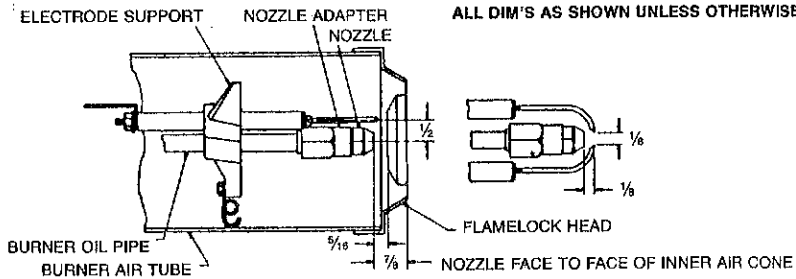

Figure 2
- 2— Install proper nozzle into gun assembly. Loosen and remove the two screws located on the transformer top plate at the front of the burner chassis and swing open. Slide drawer assembly into air tube (see Fig. 2).